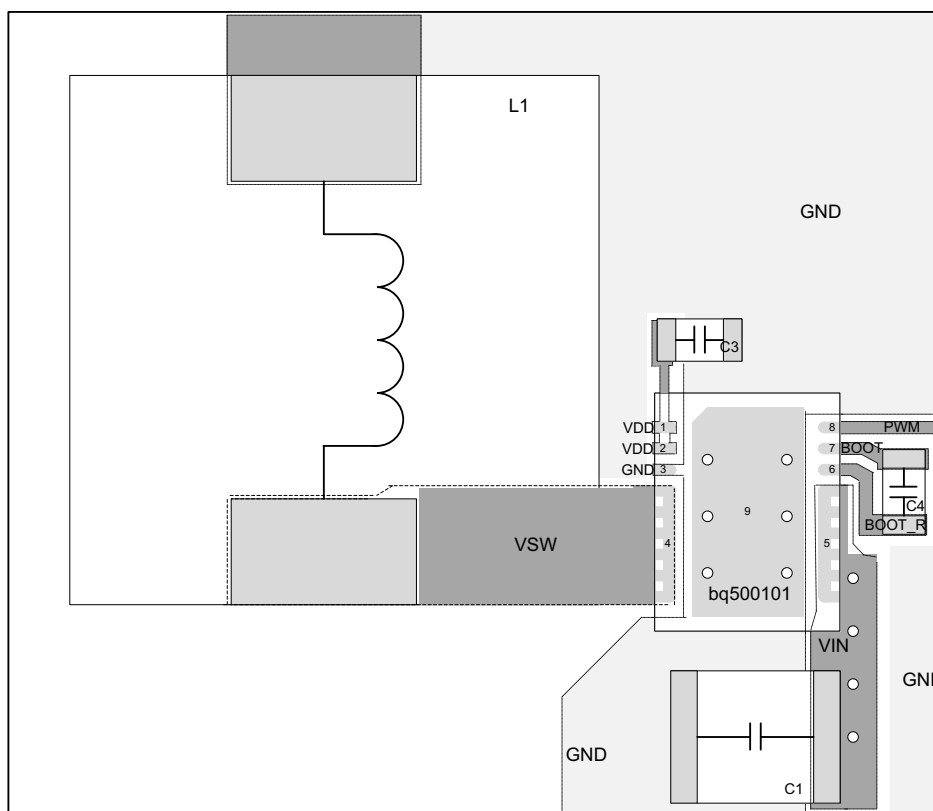

Figure 12. Recommended PCB Layout (Top Down View)
- The placement of the input capacitors relative to V_{IN} and P_{GND} pins of bq500101 device should have the highest priority during the component placement routine. It is critical to minimize these node lengths. As such, the ceramic input capacitor C1 needs to be placed as close as possible to the V_{IN} and P_{GND} pins (see Figure 12). Notice if there are input capacitors on both sides of the board, an appropriate amount of V_{IN} and GND vias need to be added to interconnect both layers..
- The bootstrap cap C_{BOOT} 0.1- μ F 0603 16-V ceramic capacitor C4 in Figure 12 should be closely connected between BOOT and BOOT_R pins.
- Use the smallest drill size allowed in your design. The example in Figure 12 uses vias with a 10 mil drill hole and a 16 mil capture pad.